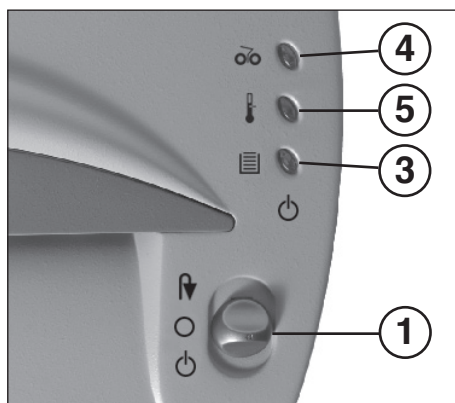

fig. 1
1 = Function switch (fig. 1)
3 = Pilot lamp (fig. 1)
4 = Pilot lamp „material jam“ (fig. 1)
5 = Pilot lamp „motor overload“ (fig. 1)
- Turn the function switch (1) (fig. 1) in position „“. The pilot lamp (3) (fig. 1) lights up (green).
Please make sure that the shredder is switched off over night (Turn the function switch (1) (fig. 1) in position „O“).
- The pilot lamp (4) (fig. 1) lights up.
- Turn the function switch (1) (fig. 1) **briefly** to position „V“ (material will be released), then in position „O“.
- The pilot lamp (4) (fig. 1) goes out.
- Tear off the excess paper over the feed slot and then turn the function switch (1) (fig. 1) to position „O“.
- Turn the function switch (1) (fig. 1) in position „O“.